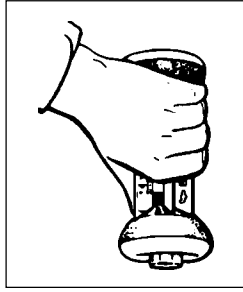
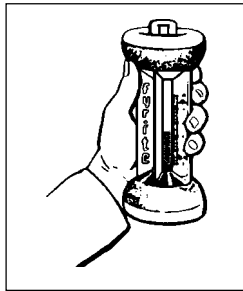

Figure 7
Figure 8
7. Absorb sample gas into FYRITE by inverting until fluid drains into top reservoir (Fig. 7). Then turn upright (Fig. 8) to drain fluid into bottom reservoir. Repeat this step once.
7. Absorb sample gas into FYRITE by inverting until fluid drains into top reservoir (Fig. 7). Then turn upright (Fig. 8) to drain fluid into bottom reservoir. Repeat this step three (3) more times (four complete inversions total).